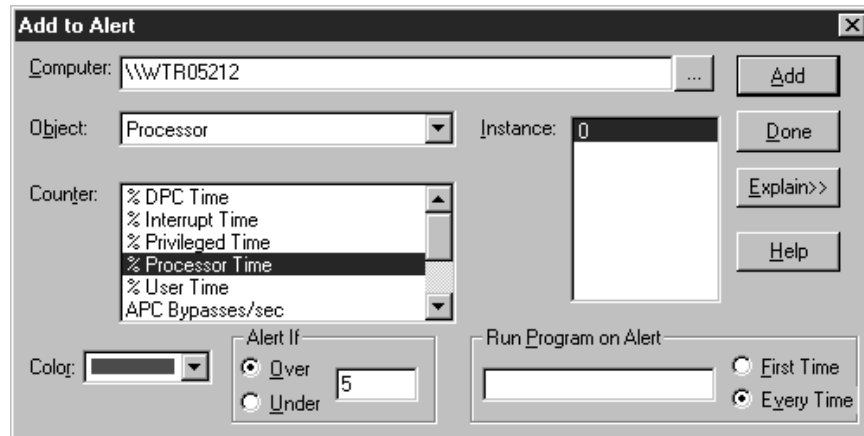

Figure 48. Add to Alert
6. Select the options shown in Figure 48. We chose Processor Time and set the threshold to send an event when the value is greater than 5. Press the Enter key followed by selecting **Add** when complete.